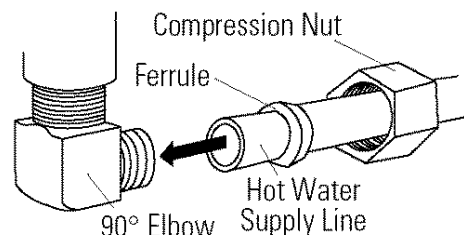

FIG 14
- 3 Insert the water line into the 90° elbow. See Figure 14.